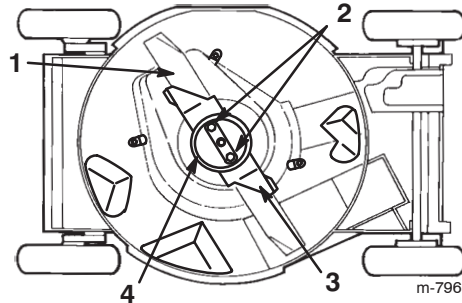

Figure 26
4. Tip the lawn mower onto its **right** side (Fig. 26).
Grasp the end of the blade using a rag or a thickly padded glove. Remove the blade nuts, the anti-scalp cup, the accelerator, and the blade (Fig. 26).
- Remove 2 blade nuts, the anti-scalp cup, the accelerator, and the blade (Fig. 26).